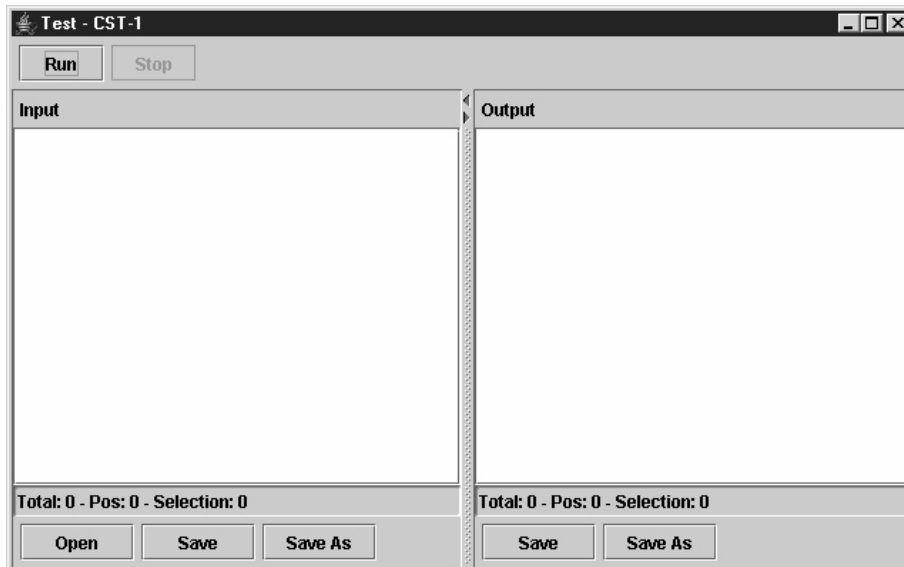

Figure 154. The Test Window
35. Select **Tools ▶ Test**. The Test window opens. See Figure 154.